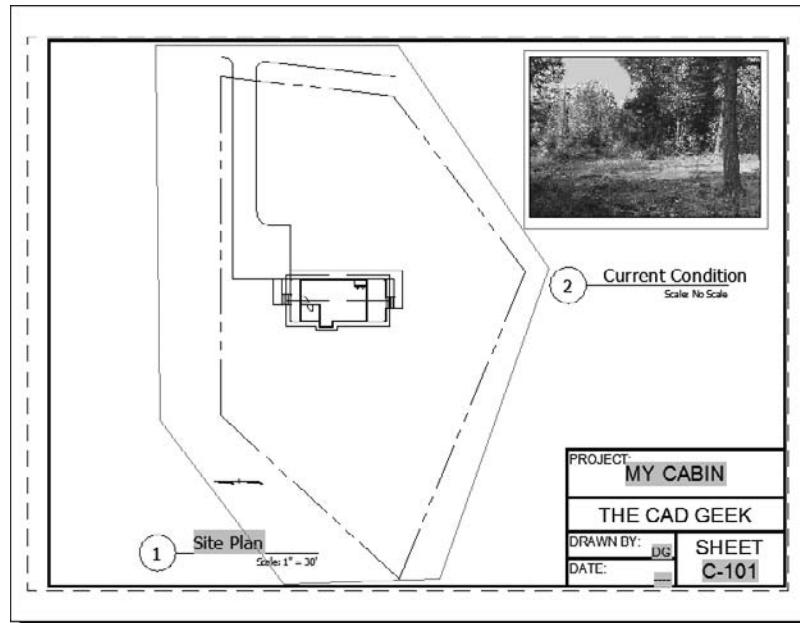

FIGURE 15.32 The site plan sheet file (C-101.dwg) with the C-101 layout active
1. Open the C-101.dwg site plan sheet file, and switch to the C-101 layout (see Figure 15.32).